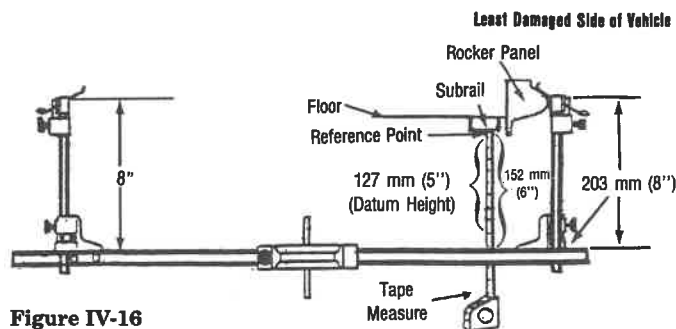

Figure IV-16
- 1) With the horizontal bar of a base gauge under a datum reference point, use a tape measure to adjust the top of the horizontal bar to the specified datum height. (See Figure IV-16.)
- 2) Read the tape measure and note the distance the top of the horizontal bar is from the reference point. As shown in Figure IV-16, the distance is 152 mm (6 inches).